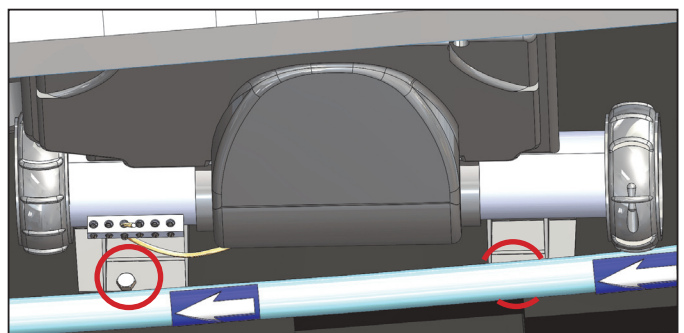

Figure 4.1
1. Locate the (2) 1/4-20 hex bolts that hold the control box to the bottom of the equipment compartment (Figure 4.1).
2. Remove both 1/4-20 hex bolts (Figure 4.1).
3. Move Control box/heater out of equipment compartment (Figure 4.1).